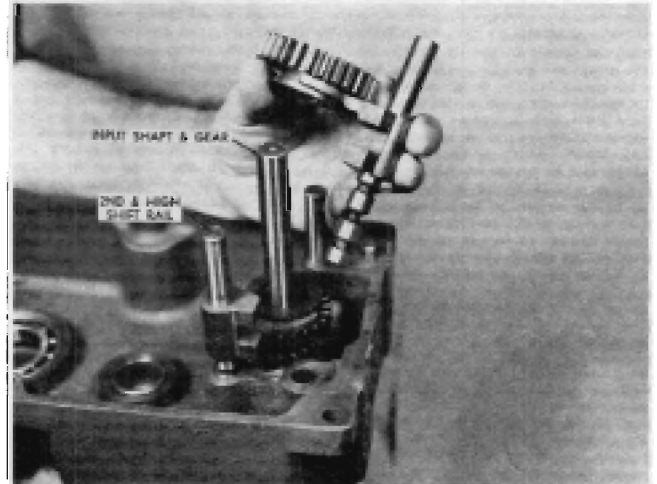

FIGURE 12
- 3A. Place the shift fork in neutral and remove the low and reverse shift rail and fork assembly (the one nearest the end of the case) together with the low and reverse sliding gear making sure to catch the stop ball as the shift rail is removed. See Figure 12.